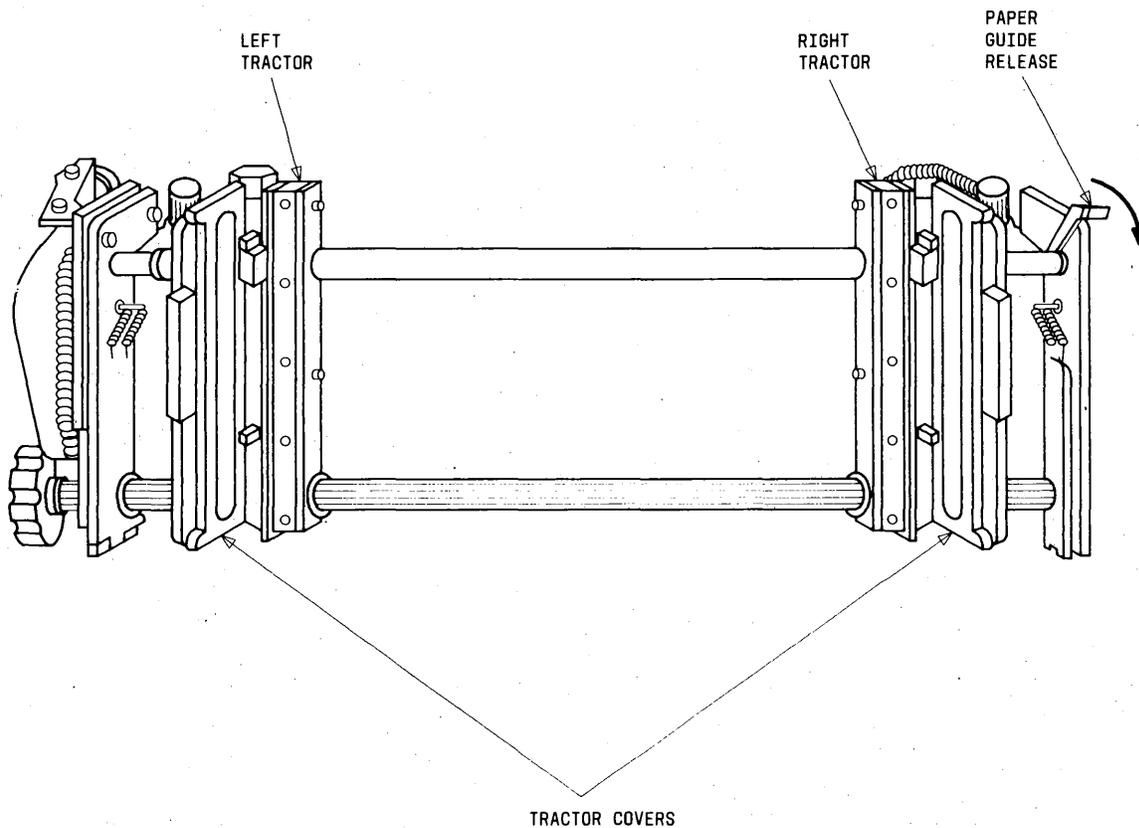

Fig. 18—DATASPEED 40 Printer Carriage Assembly (Without Paper)
- 3 Release paper guides and open tractor covers (Fig. 18).